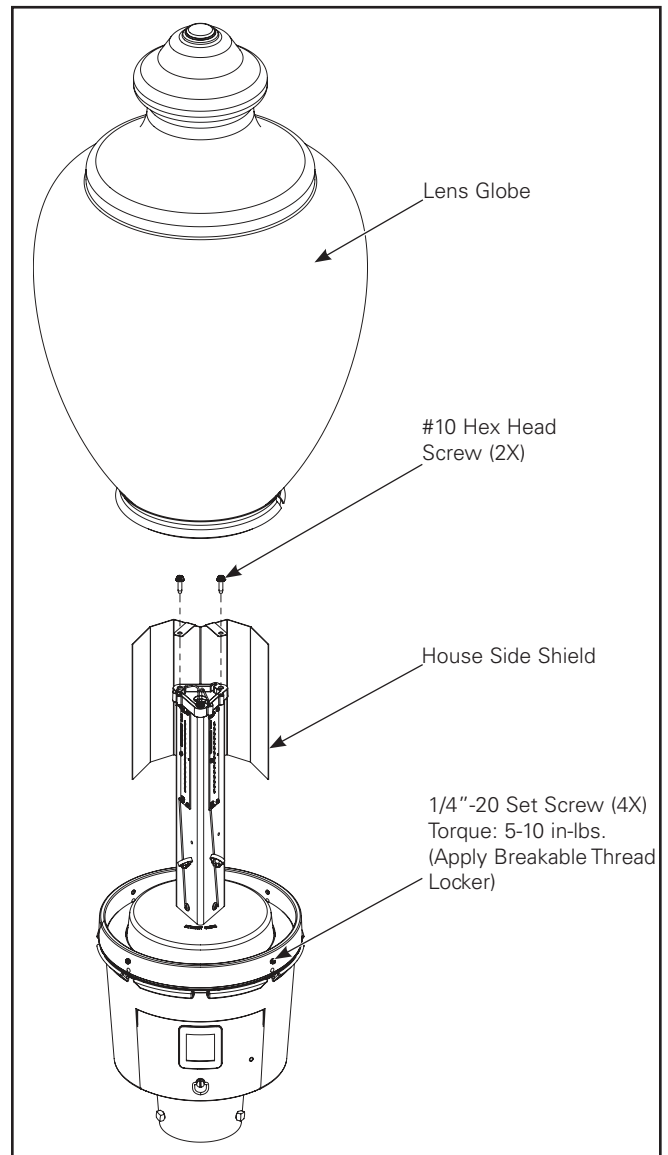

Figure 5.
4. To complete installation, slide lens globe over LED light engine and apply breakable thread locker to 4 set screws. Tighten 4 set screws to 5-10 in-lbs. (Figure 5.)